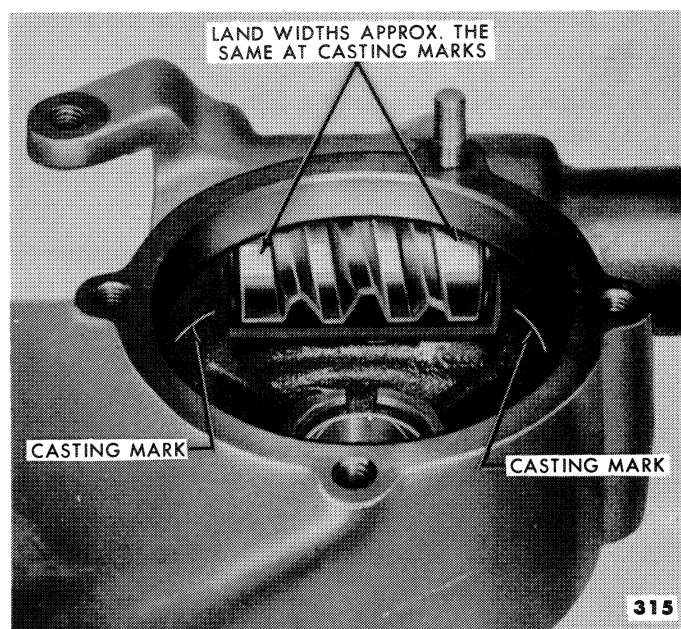

Figure 20—Positioning Worm and Shaft to the Straight-Ahead Position
7. Set the steering gear shaft and worm assembly in the straight-ahead position. This can be done by observing the worm through the side cover opening and turning the steering wheel until the widths of the lands at the end of the worm are approximately the same at the casting marks as shown in Figure 20.